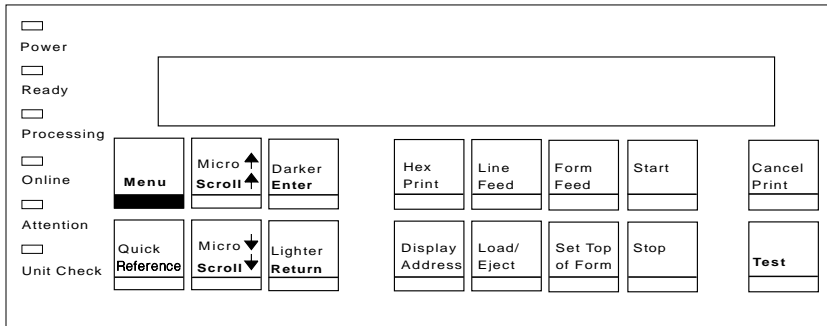
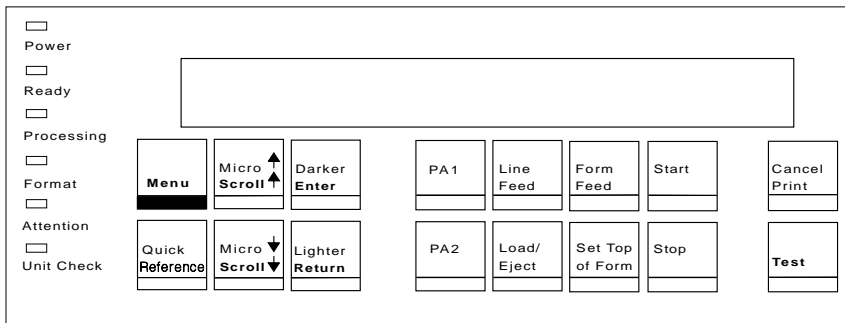
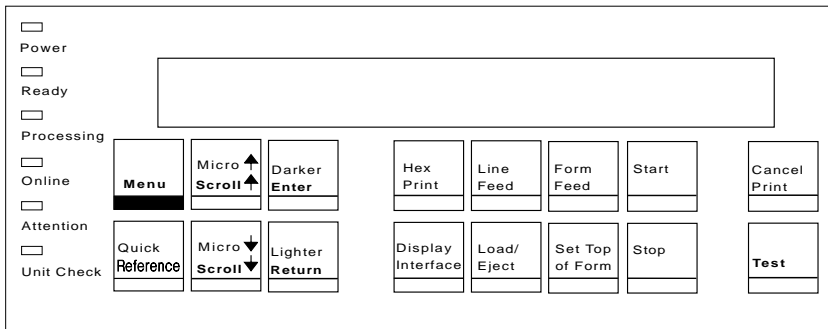

Figure 1-1. 4230 Printer Models 102 and 111 Operator Panel
Figure 1-2. 4230 Printer Models 202 and 211 Operator Panel
Figure 1-3. 4230 Printer Model 413 Operator Panel
3. Use the following figures to learn the location of keys and indicators on the operator panel. Figure 1-1, Figure 1-2, Figure 1-3 on page 1-13, and Figure 1-4 on page 1-13 show the operator panel for each model.